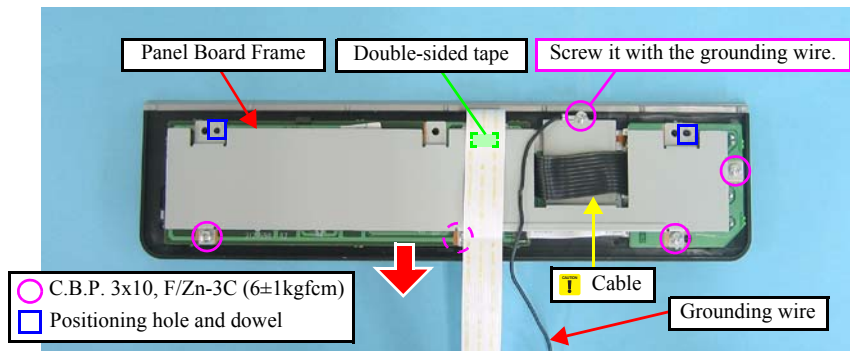

Figure 4-33. Removing the Panel Board Frame
When removing the Panel Board Frame, do not damage the cable shown in Figure 4-33 with the Panel Board Frame.
- When installing the Panel Board Frame, align the positioning holes (x2) of the Panel Board Frame with the dowels (x2) of the Panel Cover as shown in Figure 4-33.